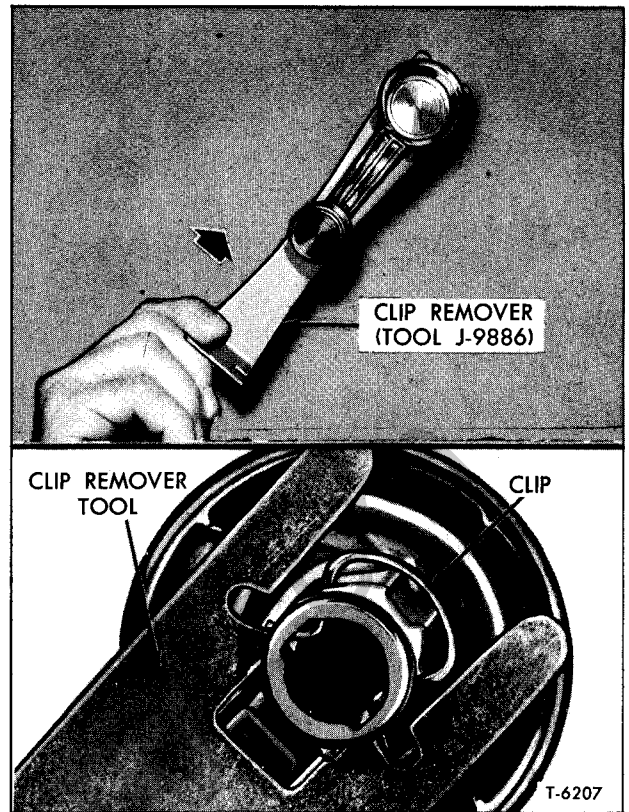

Figure 20—Door Inside Handle Replacement
Window regulator handle and door release inside handle are retained on splined shafts by spring clips. Mounted on shaft beneath door release inside handle is an escutcheon plate. (Fig. 20).
3. To install, insert spring clip in handle. Refer to lower view of figure 20 for correct position of clip on handle grooves.